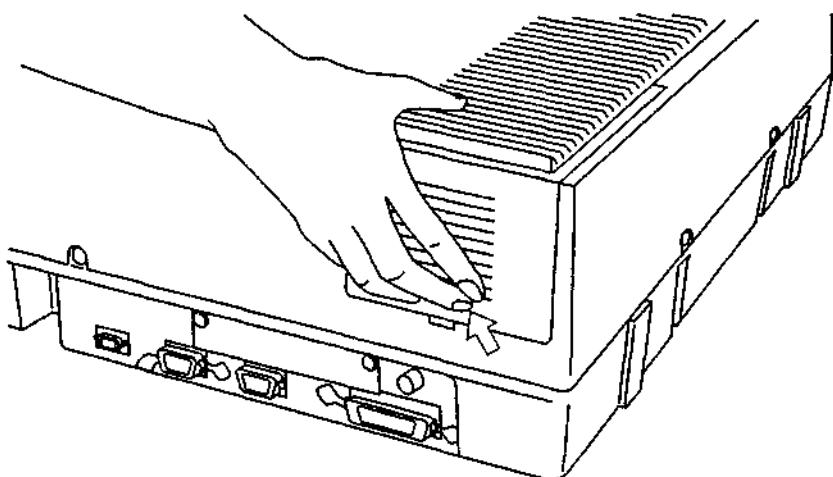
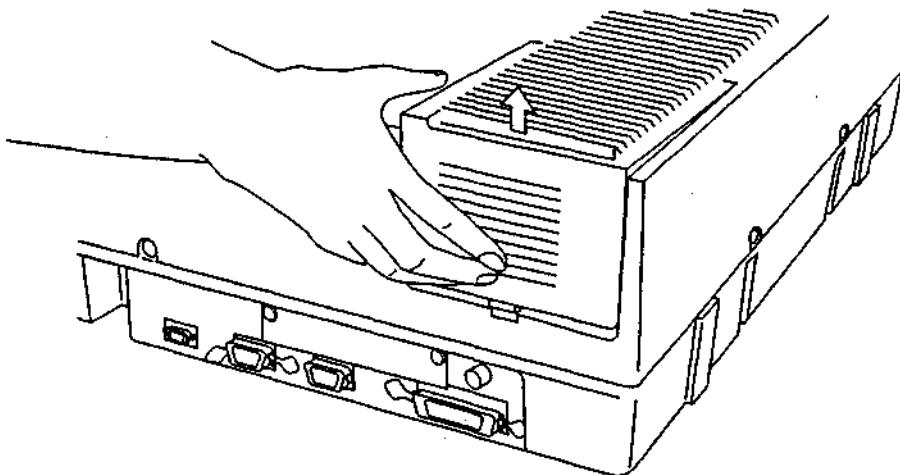

Fig. 3.4.3 Light source cover
Fig. 3.4.4 Removing the light source cover
* Refer to Fig. 3.4.3 and Fig. 3.4.4 on Page 3-9 to remove the light source compartment cover.
- (1) Press on the parts indicated by the arrows in Figure 3.4.3 on the sides of the light source cover, lift the cover up and release, the "catch".
- (2) Next, pull the light source cover in the direction of the arrow in Figure 3.4.4 to remove the light source cover.
- (1) Press on the parts indicated by the arrows in Figure 3.4.3 on the sides of the light source cover, lift the cover up and release the "catch".
- (3) Remove the WI lamp retainer spring from the end of the top of the WI lamp. Since there is fear of touching the D2 lamp with your hand at this time, either cover the D2 lamp with a clean piece of paper or cloth or remove the D2 lamp before performing this operation. (Refer to "Replacing D2 Lamp" for the procedure of removing the D2 lamp.)